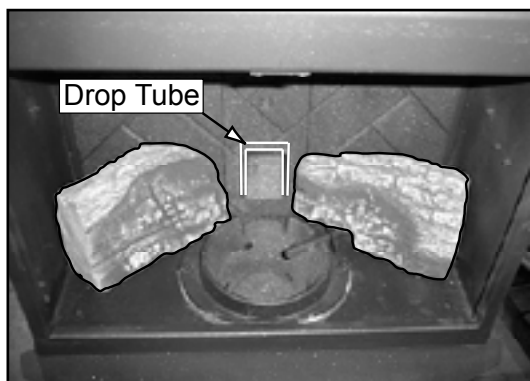

Figure 19.2
2. Continue placing the last 3 logs around the firepot as show in **Figures 19.2, 19.3 and 19.4.** Be careful not to block the drop tube in the back of the firebox where pellets feed into the firepot.